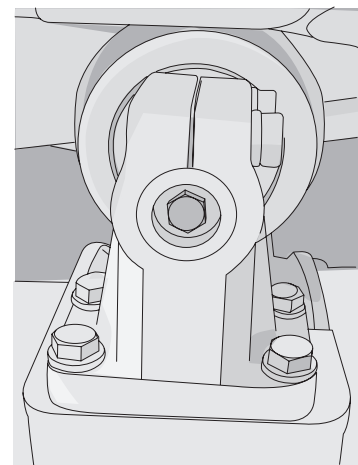

Figure 4-35
- Slowly screw loose the seal bolt (Figure 4-35) to see if there is oil seeping out from the threads. If yes, it means that there is enough oil, and you should tighten the bolt immediately. If there is still no oil flowing out after the seal bolt is completely removed, it means that there isn't enough oil. In this case, you should require your local Shantui distributor to make necessary repair.